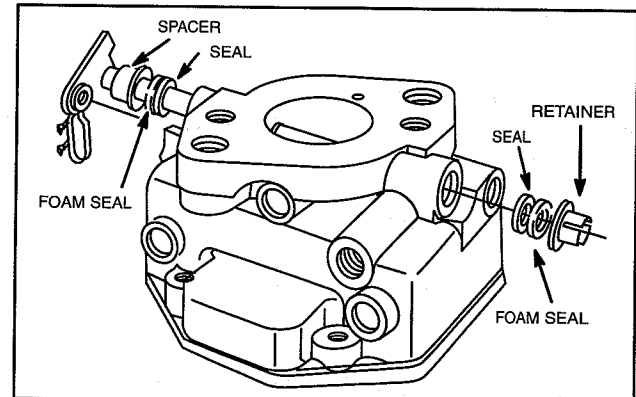

Fig. 110 – Install Throttle Shaft
5. Install foam seal and retainer, Fig. 110.